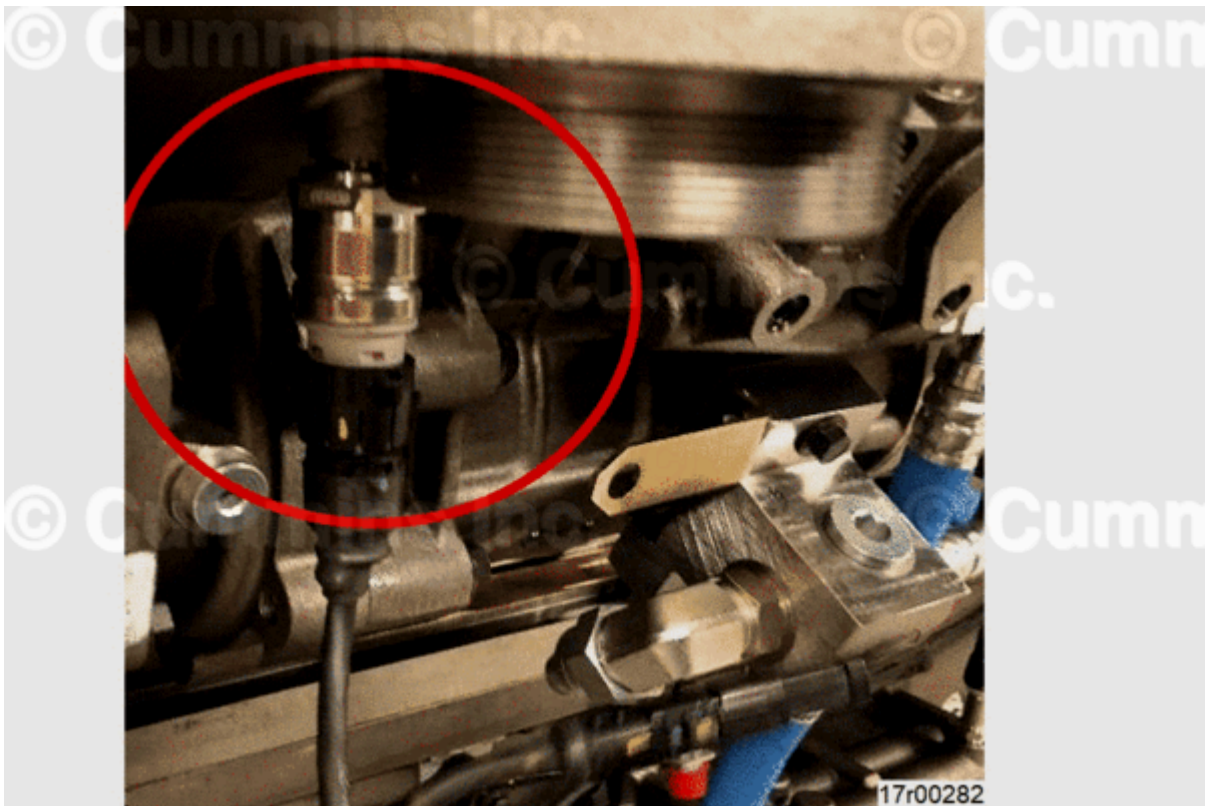

Figure 14, Primary Lubricating Oil Pressure Sensor Location.
6. Install primary lubricating oil pressure sensor behind filter location in lubricating oil fuel pump lubricating oil filter head. See Figure 14 above.